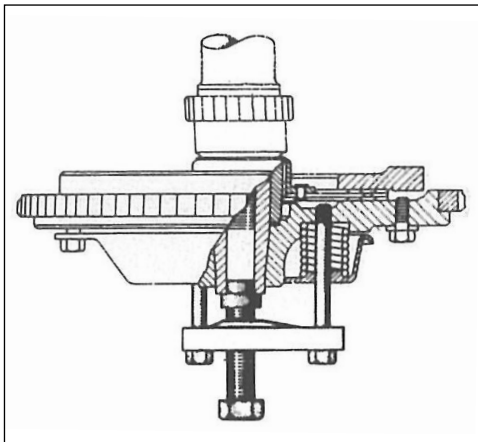

Fig. 1
3. Insert shouldered spacer on to the end of the crankshaft (see Fig. 1).
5. Lastly screw the centre bolt into the puller to bring pressure onto the shouldered spacer (see Fig. 1).